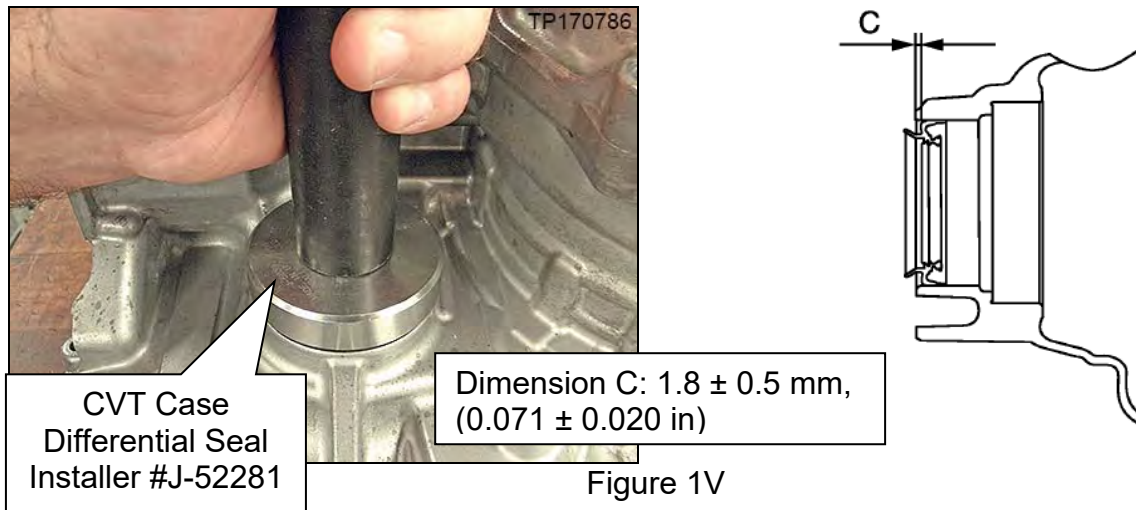

Figure 1V
1. Install the differential side oil seal to the CVT case (Figure 1V).
- Drive the differential side oil seal in until the amount of oil seal protrusion from the CVT case edge matches dimension C shown in Figure 1V.